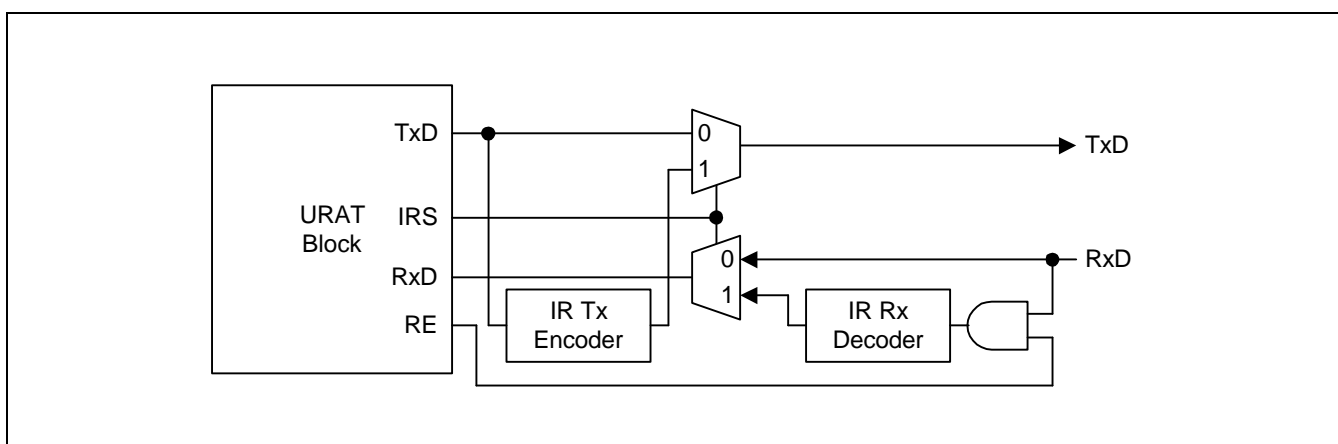

Figure 7-2. Infra-red Mode
The S3F443FX UART block can support the infra-red (IR)-based transmit and receive (IrDA 1.0), which can be selected by setting the infra-red-mode bit in the line control register (LCON). The implementation of the mode is shown in Figure 7-2.